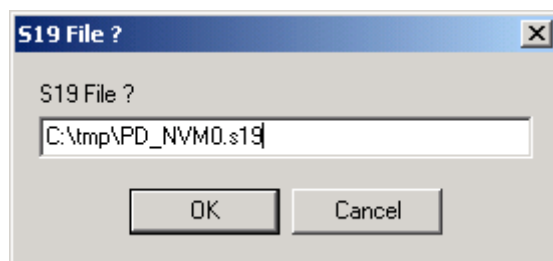

Figure 20 S19 File Window
8. As shown in Figure 20, use the S19 window to specify which S19 file to store active NVM data to and then click the “OK” button. For NVM0 use ‘PD_NVM0.s19’ and for NVM1 use ‘PD_NVM1.s19’.